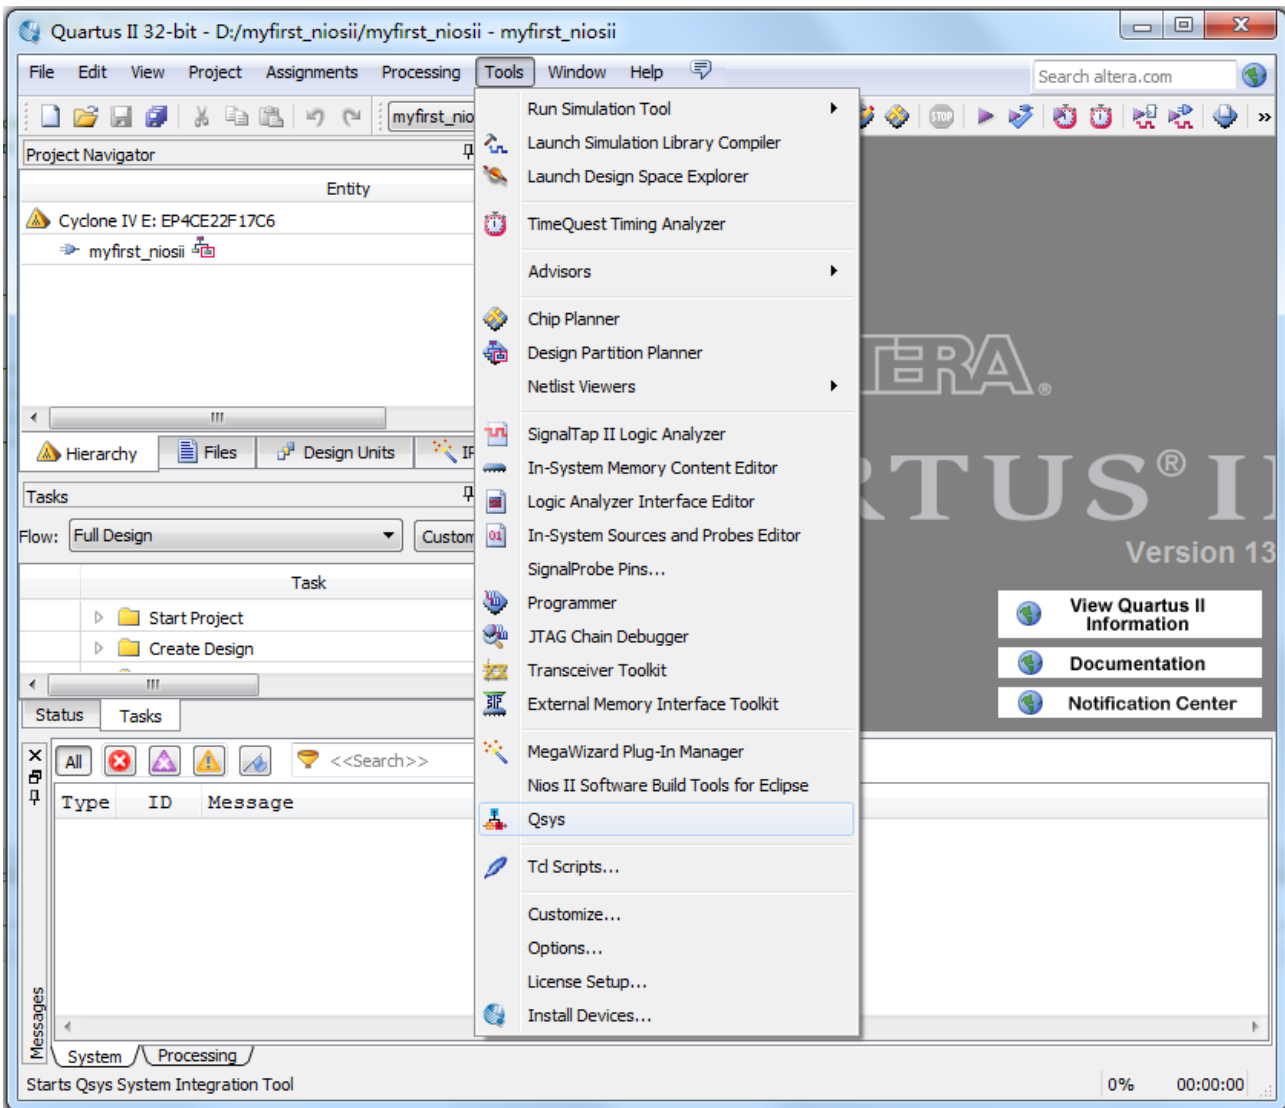
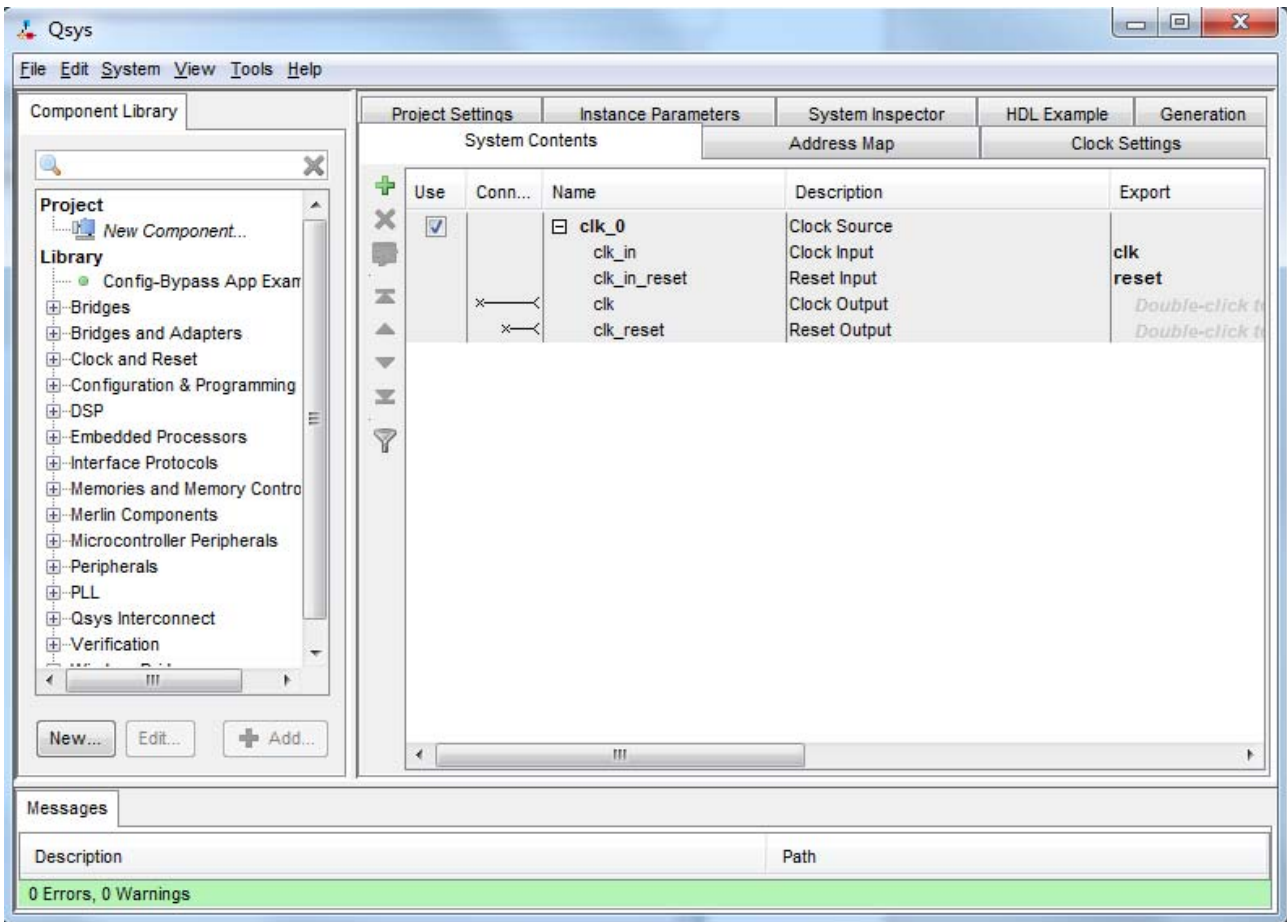

Figure 1-9 Qsys Menu
Figure 1-10 Create New Qsys System
5. Choose **Tools** > **Qsys** to open new **Qsys** system wizard . See **Figure 1-9** and **Figure 1-10**.